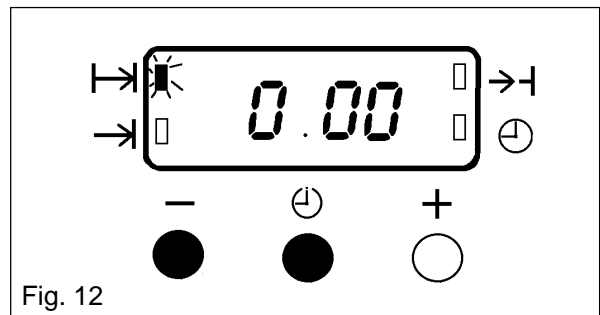

Fig. 12
- i) To cancel an automatic programme press the Selector Control button until the Cook Time indicator (H→) flashes. Press the decrease control (-) until the display reads 0.00 as Fig.12.